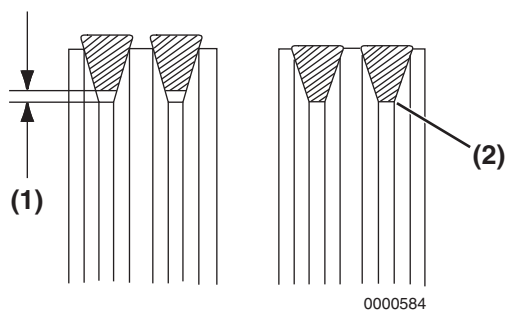

Figure 8-11
8. Inspect the condition of the V-belt. There must be clearance (Figure 8-11, (1)) between the V-belt and the bottom of the pulley groove. If there is no clearance (Figure 8-11, (2)) between the V-belt and the bottom of the pulley groove, replace the V-belt.